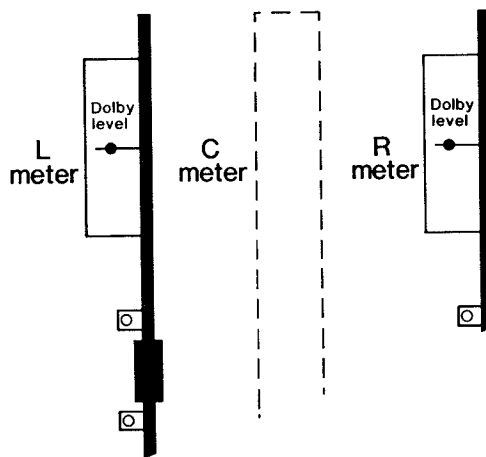

Fig. 2.15 Meter Indication of Dolby Level
- (f) Thread up and play the Dolby tone side of the Dolby test film Cat. No. 69 (the side with the symmetrical waveform as opposed to the random noise side). Adjust the appropriate Proj. left and right Optical Pre-amplifier gain controls (20) so the L and R meters (28), (30) read approximately Dolby Level (see Fig. 2.15). This is an approximate setting only, and will be repeated with greater accuracy later. If the tone cannot be made to reach the Dolby Level marks, increase the exciter lamp voltage.
- (j) Re-thread the Dolby Tone side of the Cat. No. 69 loop and adjust the left and right pre-amplifier gain controls so that the L and R meters (28) , (30) indicate Dolby Level (see Fig. 2.15).
- (k) Stop first projector; preselect next projector (internal light flashes), then press 'Go' button (1) . The light inside the first projector button should go out, and the light inside the second projector button should be on continuously. Repeat sections (c) to (j) for the other projectors.